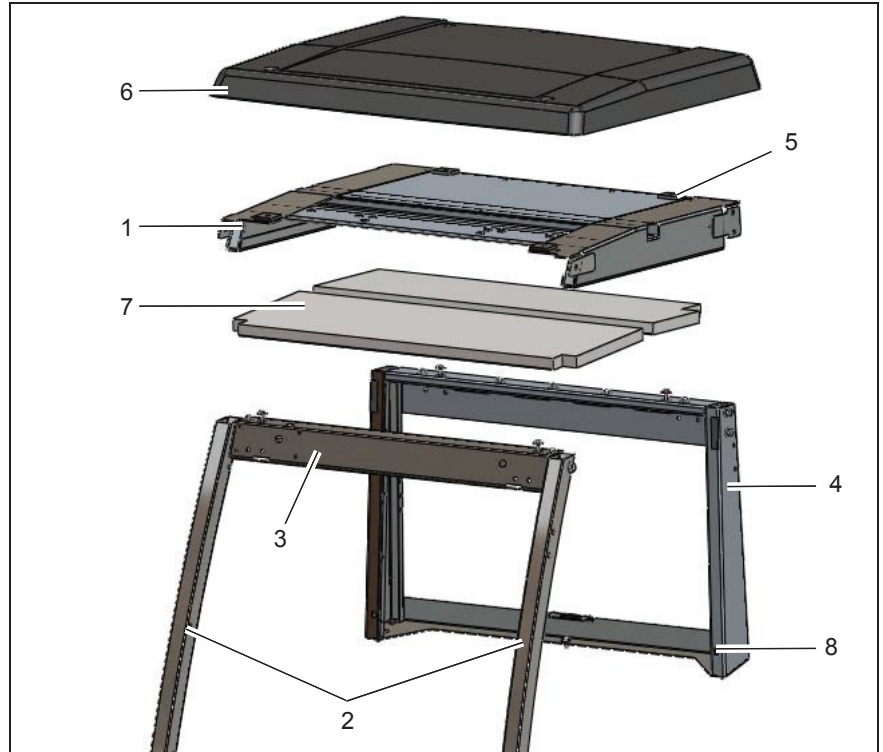

Fig.3
5. Mount the roof (Fig. 3/1) on the supports and rear frame.
6. Assemble the roof on the two front frames (Fig. 3/2) and the plate (Fig. 3/3) fixing at the sides using two M10x70 screws, nuts and washers.
7. Fit and fix the roof on the rear frame (Fig. 3/4) at the sides using four M10x20 screws, nuts and washers.
8. Fix the roof to the rear frame (Fig. 3/4) and plate (Fig. 3/3) from the top using four M8x20 screws, nuts, washers and protective caps.
9. Assemble the roof panel (Fig. 3/6) to the supports and frame using four M8x30 screws, washers, nuts and protective caps.
10. Fix the two insulation pads (Fig. 3/7) to the safety roof.